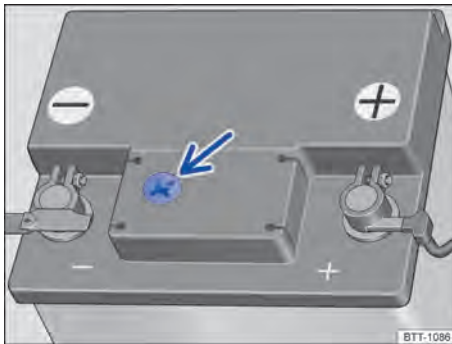

Fig. 188 On the engine compartment: example of display position on the upper side of the vehicle battery.
- The round display → **Fig. 188** on the top side of the vehicle battery changes its colour according to the electrolyte level.